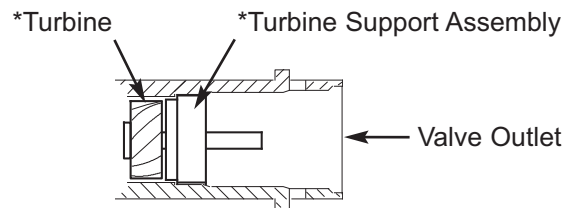

FIG. 8
- c. If adding a turbine to the system, be sure the turbine and support are in place in the valve outlet, as shown in Figure 8.